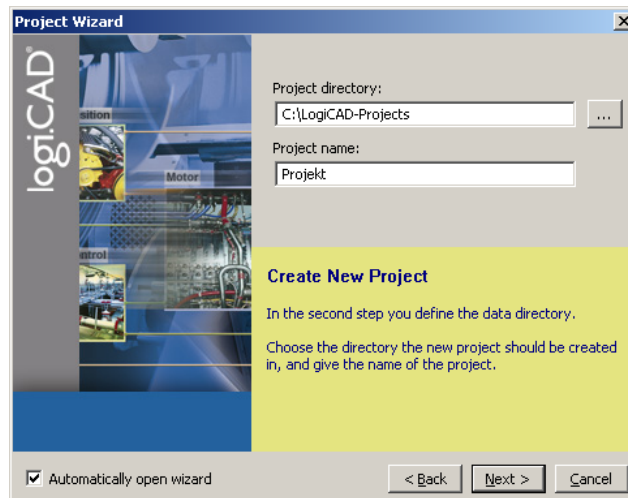

Figure 17: Project name and path
5. Specify the name of the project and the path where to store the project files, see Figure 17.